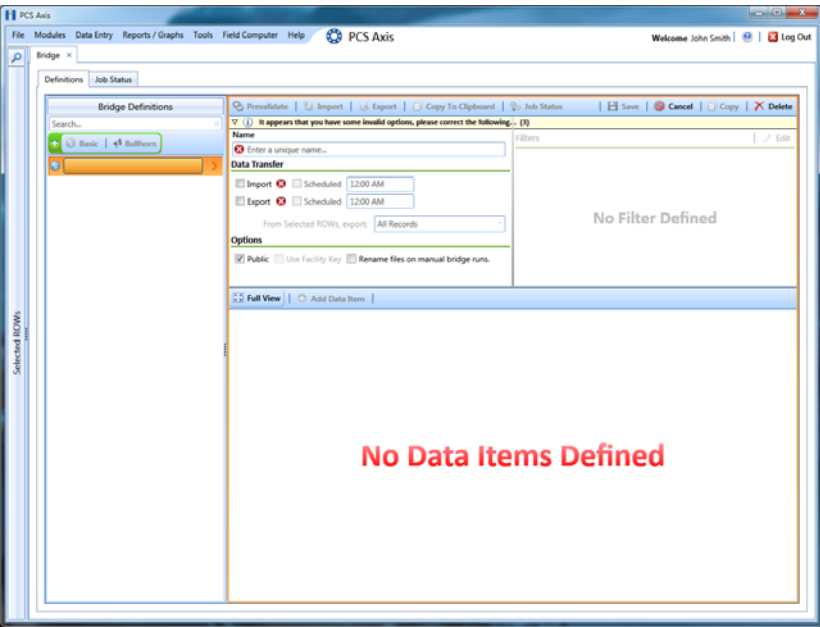

Figure 9-14. Basic Bridge Definition
- 3 Click  **Basic** to open the basic definition panel (Figure 9-14).